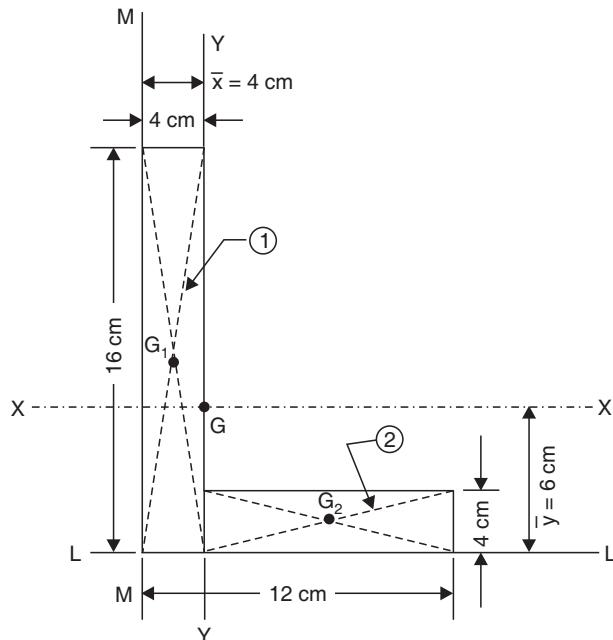

Fig. 7.20
**Example 7.1.** Find out the position of the centroid of L section as shown in Fig. 7.20.
**Sol.** Refer to Fig. 7.20.